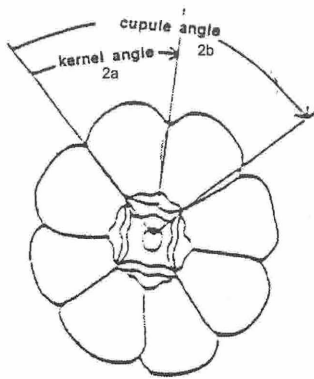

Figure 2
- 2a: Kernel Angle – is the measure of the interior angle created by the left side of the kernel to the attachment point at the base of the embryo to the right side and is along the axis of the cross section when the kernel is in a normal position on the cob (measurement 2a on Figure 2). This is done using polar co-ordinate graph paper by placing the left side of the kernel parallel and touching the 0° line and moving the kernel toward the center of the graph paper circle until the right side is parallel and touching another line. Looking directly down on to the kernel, the angle is recorded in degrees. This measurement is not very accurate due to the fact that many kernels have rounded sides, are distorted from carbonization, and are hard to manipulate to get this measurement.
- 2b: Cupule Angle – The angle measurement is taken in a similar fashion to the kernel angle measurement. The measure of the interior angle created by the left side of the cupule to the attachment point at the base of the cupule to the right side and is along the axis of the cross section when the cupule is in a normal position on the cob (measurement 2b on Figure 2). This is done using polar co-ordinate graph paper by placing the left side of the cupule parallel and touching the 0° line and moving the cupule toward the center of the graph paper circle until the right side is parallel and touching another line. The angle is recorded in degrees. This measurement is not very accurate due to the fact that many cupules have rounded sides, are distorted from carbonization, and are hard to manipulate to get this measurement.